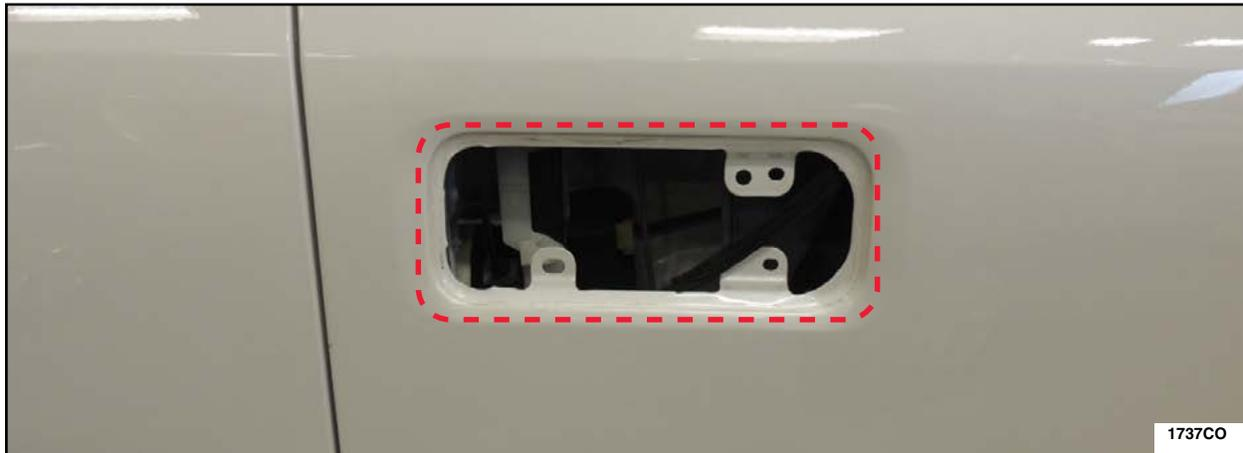

FIGURE 45
16. Using a clean shop towel and isopropyl alcohol clean inside the dotted lines on the mating surface area of the front exterior door handle openings. See Figure 45.